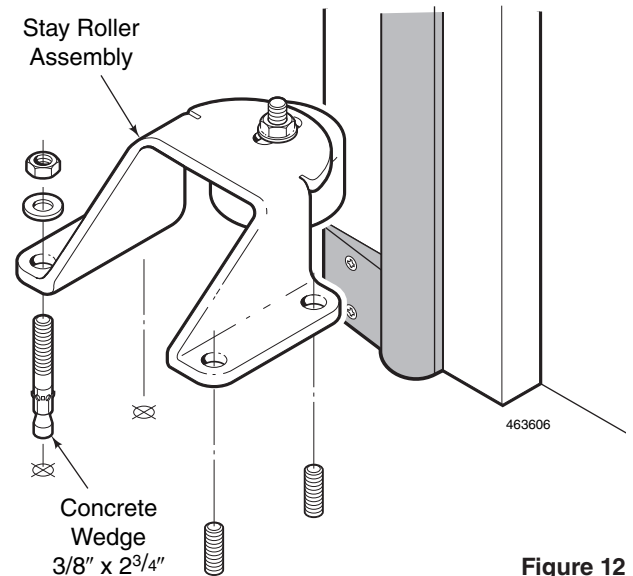

Figure 12
4. Use four  $3/8" \times 2-3/4"$  concrete wedge anchors to fasten each Stay Roller to the floor. See Figure 12.